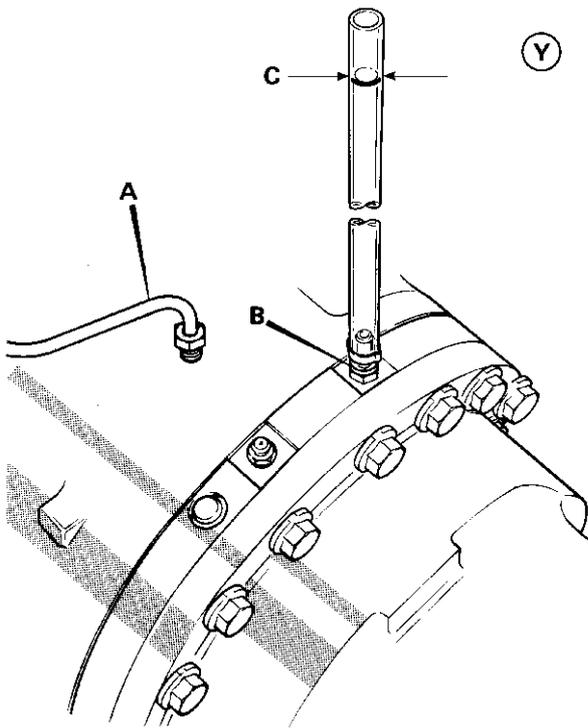

Fig 23. Brake Piston Seal Leakage Test
- a Install an adapter fitted with a piece of clear tube to the brake piston port **B**, as shown at **Y**, ⇒ Fig 23. \(□ G-44\).